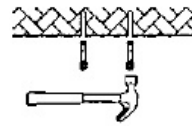

Figure 4
2. Fix screws into the holes with a hammer. (figure 4)